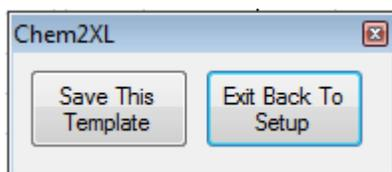

Figure 4.8 Save the template and return to Setup
13. After editing the template is complete, save the template. Click the Chem2XL *Save This Template*. (see Figure 4.8) By clicking this button, the template will now be properly saved into the Chem2XL Template directory. **Note: saving using the Excel file/save menu will not automatically save the template to the proper location.** After saving the template, click *Exit Back to Setup* which will then close the template (see Figure 4.8) and return to Setup. Quit the Chem2XL Setup Wizard.